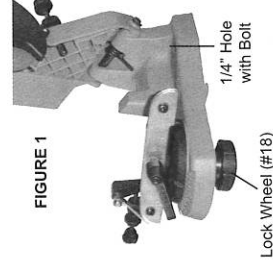

FIGURE 1
1. When installing the sharpener on a workbench, make sure that the **lock wheel (#18)** (is accessible as shown in the mounting picture in **FIGURE 1**).